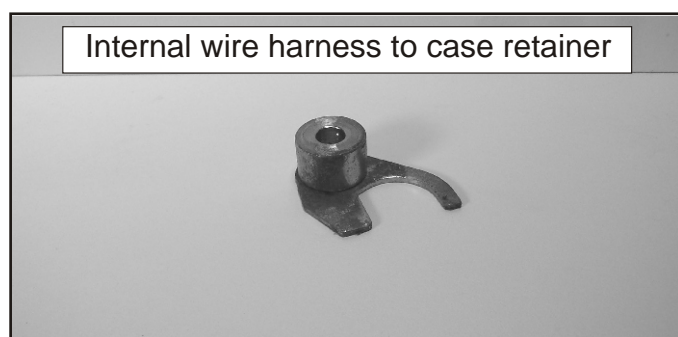

Figure 92
41. Refer to Figure 92 for a close- up view of the internal wire harness to case retainer.